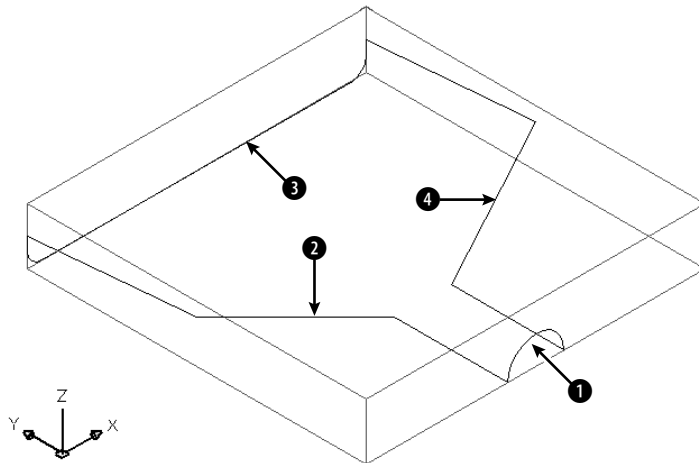

Figure 23-35: The four curves are the basis for creating an edge surface.
2. Save it as ab23-07.dwg in your AutoCAD Bible folder. You see four curves in a bounding box, as shown in Figure 23-35. In this exercise, you use the curves to draw a dustpan.
4.  Choose Edge Surface from the Surfaces toolbar. At the prompts, select **1**, **2**, **3**, and **4** in Figure 23-35.